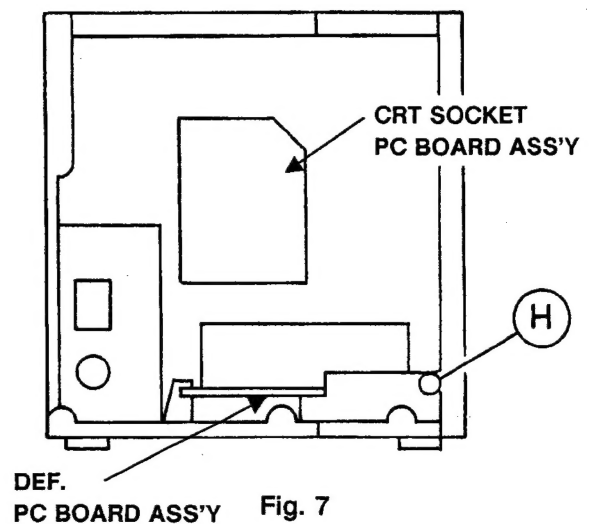

Fig. 7
- (2) Remove the screw ④ shown in Fig. 7.
- (3) Remove the CRT SOCKET PC BOARD, wires of the DEF. YOKE and the HVT and other wires as well.
- (4) Pull the DEF. PC BOARD ASSEMBLY toward you and remove it. (When replacing the DEF. PC BOARD ASSEMBLY to its original position, confirm that it is connected to the connector of the CONTROL PC BOARD ASSEMBLY.)